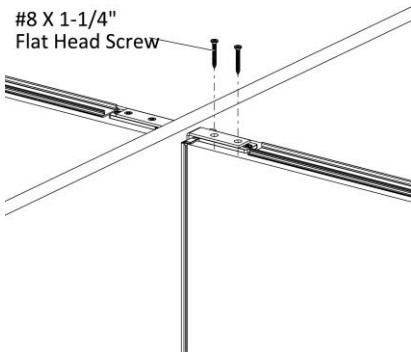

Figure 4
- Follow **Steps 5 and 6** to install the other standard panel, (Figures 4 and 5).